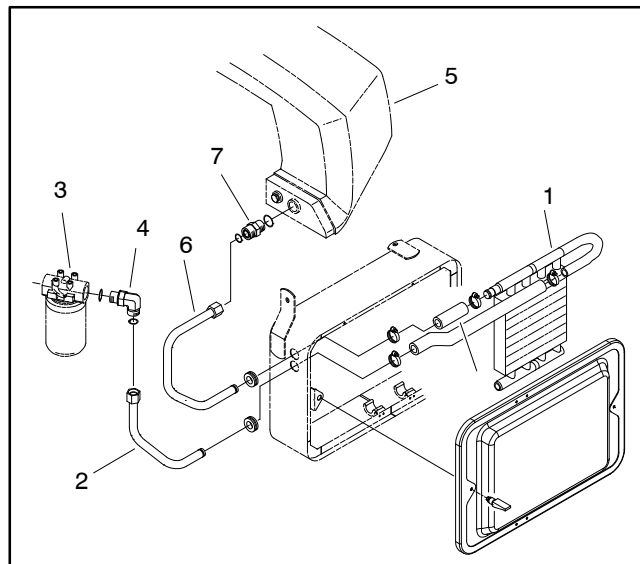

Figure 9
3. Remove screen (item 10) from radiator support.
4. If machine is equipped with optional hydraulic oil cooler (Fig. 9), drain hydraulic reservoir and remove oil cooler (see Oil Cooler in the Service and Repairs section of Chapter 4 – Hydraulic System).
A. Loosen hose clamp and disconnect breather hose (item 24) from fitting on radiator.
B. Loosen hose clamps and disconnect upper and lower radiator hoses (items 2 and 17).
A. Remove flange head screw (item 18) and flange nut (item 9) that secure upper rear corner of radiator support to frame.
B. Remove washer head screw (item 7) that secures the upper front radiator support tab to the frame.
C. Remove washer head screw (item 7) that secures the front of the radiator support to the footrest.
7. Remove four (4) flange head screws (item 18) and flange nuts (item 9) securing the radiator support (item 8) to the radiator. Slide radiator out of the support.
8. Remove four (4) cap screws (item 22) and flat washers (item 31) that secure the fan shroud (item 19) to the radiator. Separate the shroud from the radiator.
1. Secure fan shroud (item 19) to radiator with four (4) cap screws (item 22) and flat washers (item 31).
2. Slide radiator into the radiator support (item 8). Secure support to radiator with four (4) flange head screws (item 18) and flange nuts (item 9).
B. Secure upper rear corner of radiator support to frame with flange head screw (item 18) and flange nut (item 9).
C. Secure the upper front radiator support tab to the frame with washer head screw (item 7).
D. Secure the front of the radiator support to the footrest with washer head screw (item 7).
A. Connect upper and lower radiator hoses (items 2 and 17) and secure with hose clamps.
B. Connect breather hose (item 24) to fitting on radiator and secure with hose clamp.
5. If machine is equipped with optional hydraulic oil cooler (Fig. 9), install oil cooler to the radiator (see Oil Cooler in the Service and Repairs section of Chapter 4 – Hydraulic System). Fill the hydraulic reservoir with new hydraulic oil.
6. Install screen (item 10) to radiator support.